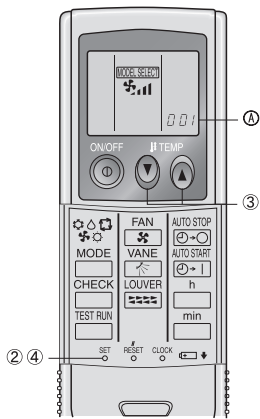

Fig. 6-7
1) Setting (Fig. 6-7)
- ① Insert batteries.
- ② Press the SET button with something sharp at the end.